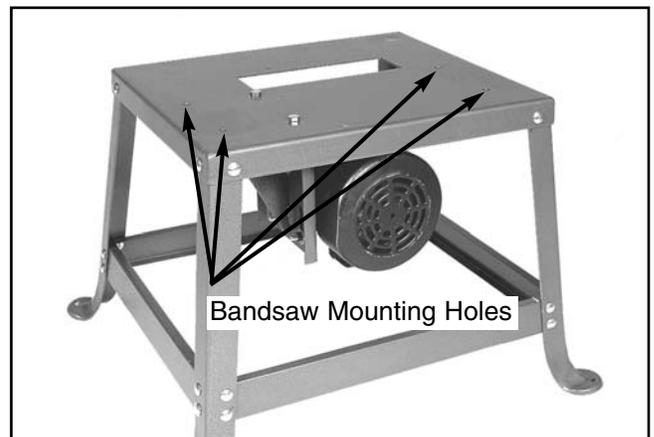

Figure 6.
2. Attach the bandsaw to the stand with four (4) $\frac{3}{8}$ "-16 x 2" hex bolts, four (4) $\frac{3}{8}$ "-16 hex nuts, and eight (8) $\frac{3}{8}$ " washers provided. The bolts on the left side should go through the motor mount bracket. Hand tighten for now.
4. Working from the bottom up, tighten all stand bolts, motor mount bracket to the stand top (leave the motor bolts loose for now), and the bandsaw mounting bolts at the holes shown in **Figure 6**.